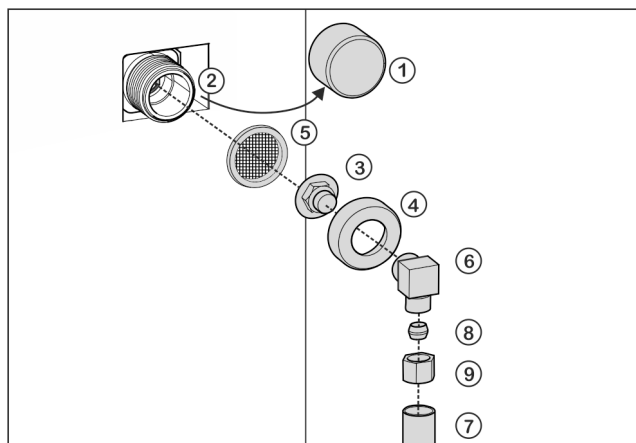

Fig. 25
- Remove cap Fig. 25 (1) from solenoid valve Fig. 25 (2).
- Insert coupler Fig. 25 (3) into union nut Fig. 25 (4).
- Insert the filter Fig. 25 (5) with the recess pointing down towards the coupler Fig. 25 (3).
- Screw the union nut Fig. 25 (4) by hand onto the thread of the solenoid valve Fig. 25 (2) until it is firmly in place.
- Screw on angle piece Fig. 25 (6).
- Connect the water pipe Fig. 25 (7) (e. g. 1/4" OD copper pipe) with the clamp ring Fig. 25 (8) and nut Fig. 25 (9) to the elbow connector Fig. 25 (6).
- If necessary: Fasten the water pipe Fig. 25 (7) to the housing with the guide clip.
- Put angle piece Fig. 25 (6) to one side.
- Connect the water pipe Fig. 25 (7) (e. g. 1/4" OD copper pipe) with the clamp ring Fig. 25 (8) and nut Fig. 25 (9) to the coupler Fig. 25 (3).